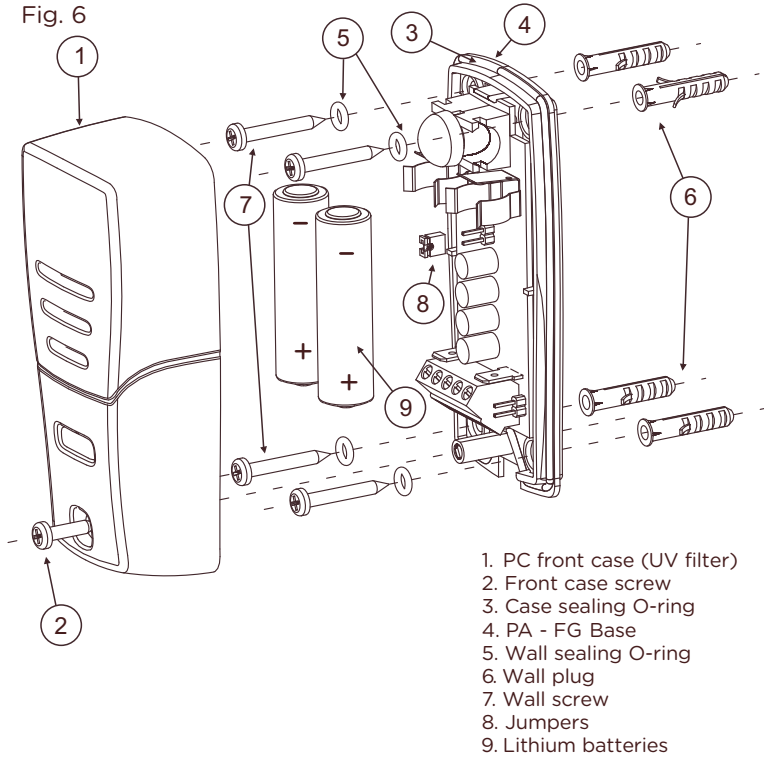

Fig. 7
To increase battery life (2 years) you can adjust the frequency modulation using the J2 jumper. See fig. 7
The emitter will set the frequency modulation to continuous mode when powered with a 12/24V AC/DC power supply, achieving more range regardless of the J2 jumper (Fig. 7).
It is possible to connect an 8K2 safety edge assembled on the mobile gate leaf to the terminals 4 and 5. The emitter checks the edge continuously, interrupting the infrared beam when pressed and activating the security relay in the receiver. If we do not connect the safety edge, Jumper J3 must be connected. See fig. 7.
The emitter is equipped with a safety NC input in terminals 2 and 3 that deactivates the transmission of the infrared beam when that contact is opened, putting the transmitter in standby mode. If we do not connect this input, Jumper J1 (TX) must be connected. See fig. 7.